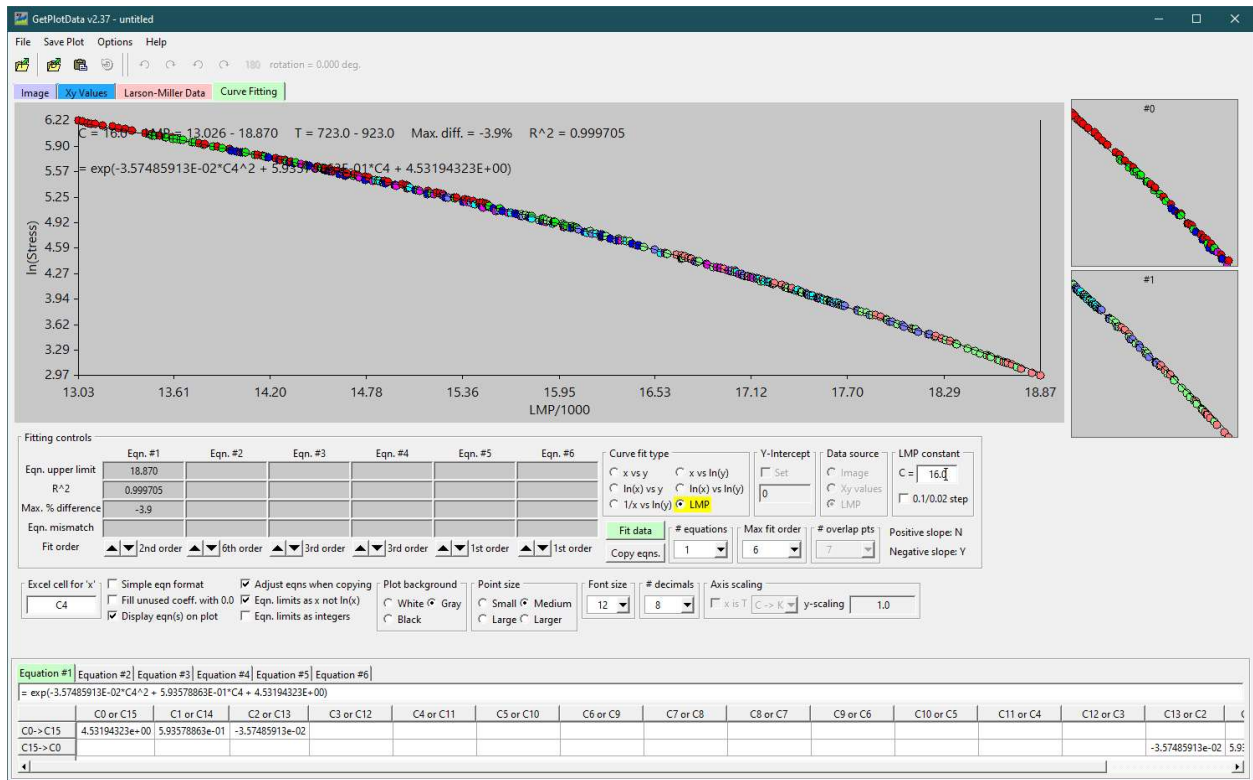

Figure 10. Larson-Miller curve fit adjusted.
- d) You can enter the “C” value directly or place your mouse in the textbox and use the mouse wheel to increment it by 0.5. Hold the shift key while scrolling to change the increment to 0.1 steps instead. Adjust the “C” value and the order of the fit using the large black arrows until you are satisfied (Figure 10).